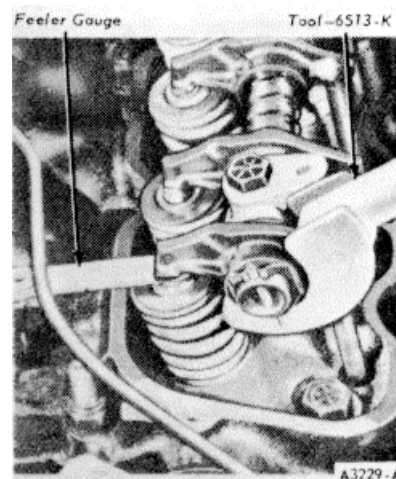

FIG 30 Checking Valve Clearance
2. With the crankshaft in the position designated in Steps 3 and 4, position the hydraulic lifter until the plunger is completely bottomed (Figure 30). **Take care to avoid excessive pressure that might bend the push rod.** Hold the lifter in this position and check the available clearance between the rocker arm and the valve stem tip with a feeler gauge. If the clearance is less than specified, install an under-size push rod. If the clearance is greater than specified, install an oversize push rod.
5. When compressing the valve spring to remove the push rods, be sure the piston in the individual cylinder is below TDC to avoid contact between the valve and the piston. To replace a push rod, it will be necessary to remove the valve rocker arm shaft assembly. Upon replacement of a valve push rod, valve rocker arm shaft assembly or hydraulic valve lifter, the engine should not be cranked or rotated until the hydraulic lifters have had an opportunity to leak down to their normal operating position. The leak down rate can be accelerated by using the tool shown in Figure 30 on the valve rocker arm and applying pressure in a direction to collapse the lifter.